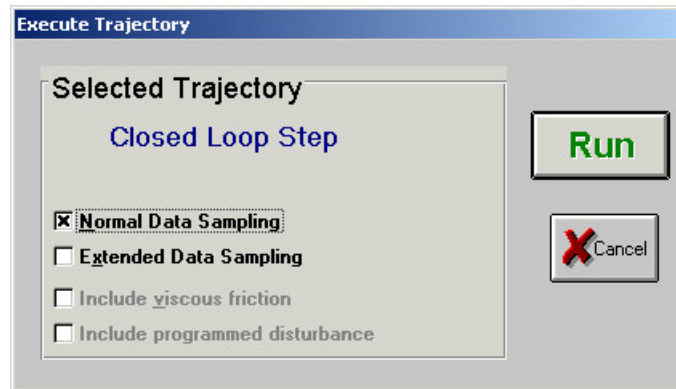

Figure 8: Execute Trajectory Window
2. Select **Command - Execute** from the main menu to execute your experiment and a window similar to Figure 8 will open.